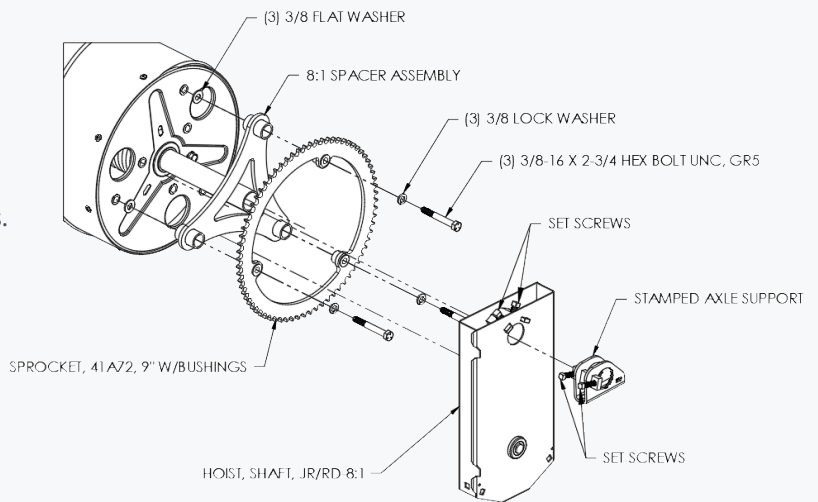

figure 10: Chain Hoist 8:1
- ✦ Attach 8:1 Spacer Assembly and Sprocket to drum using (3) 3/8" flat washers, (3) 3/8" lock washers, and (3) 3/8-16 x 2-3/4" hex bolts as shown in **Figure 10**.